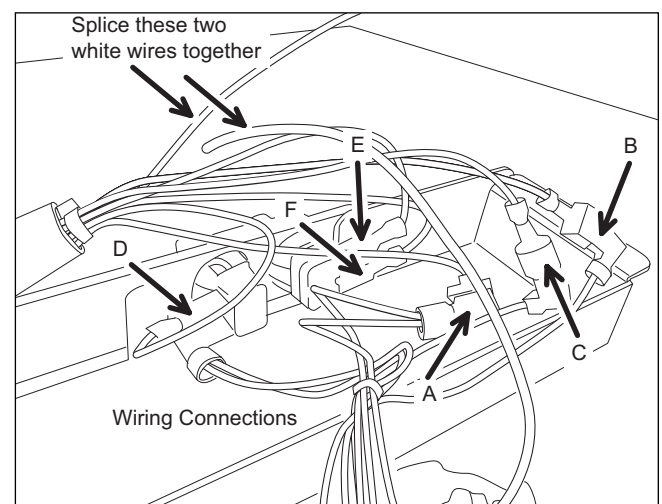

Figure 2
4. The following connections should be made between cabinet harness and relay harness (See Fig. 2):
5. The following connections should be made between relay harness and switches on unit (See Fig. 2):